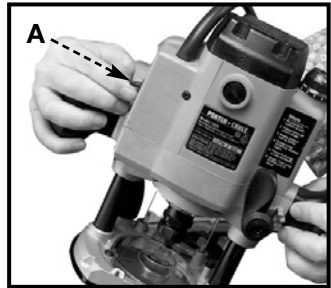

Fig. 21
Hold the tool in the operating position. Use the index finger on your right hand to raise the switch (A) Fig. 21 to the "ON" position. The tool will remain "ON" until you lower the switch (A).